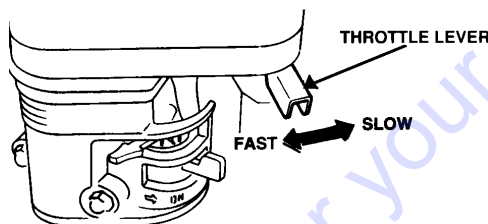

Figure 23. Throttle Lever
- Place the **engine throttle lever** (Figure 23) in the **SLOW** position, and listen for the engine speed to decrease. Allow engine to run for 2 or 3 minutes for proper cooldown.